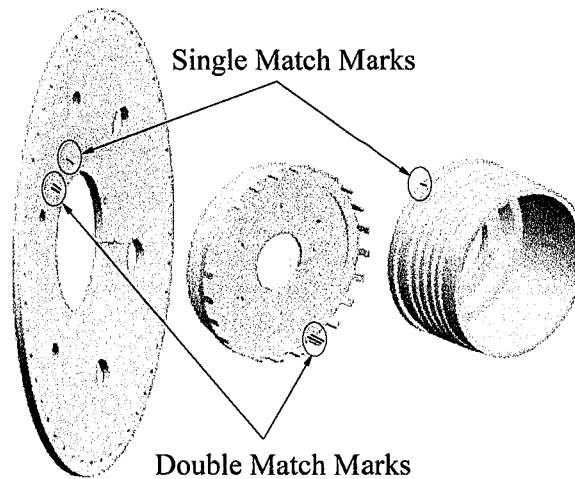
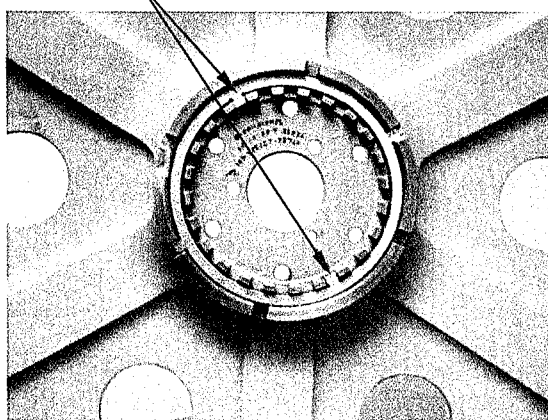
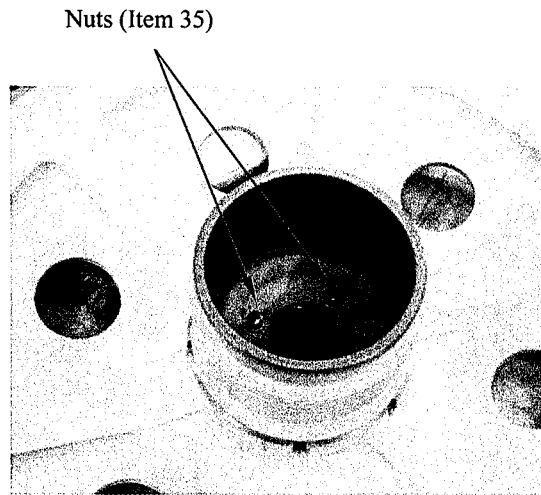

Figure 6 - Plug Assembly
Figure 9 - Aft Side of Damper Diaphragm w/Retaining Ring
Figure 10 - Aft Side of Damper Diaphragm w/Cylinder Damper
- a. Tighten the threaded damper plug (Item 33) to the damper diaphragm (Item 24). Once a reasonable resistance is felt, tighten until match-marks line up (*See Figure 6*). This will ensure that enough torque has been applied. Company performing Refurbishment shall provide any special tooling that may be required for this step.
- c. Before securing the cylinder damper (Item 29) to the threaded damper plug (Item 33), place the retainer ring (Item 28) onto the threaded damper plug (*See Figure 9*). As you continue to attach the cylinder damper (Item 29) onto the threaded damper plug, check the orientation with the damper diaphragm (Item 24), and make sure the match-marks align with each other (*See Figure 6*). Then, secure using the self-locking nuts (Item 35), tightening them to 7-10 ft-lbs. of torque. (*See Figure 10*)